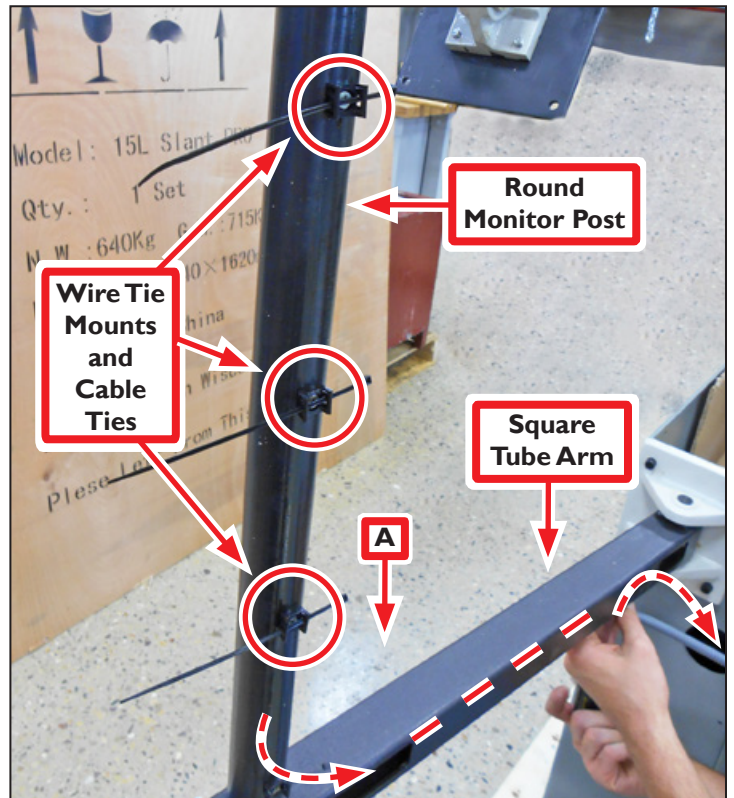

Figure 3
5. Route cables to Square Tube Arm (see **Figure 3**). Attach cables to Wire Tie Mounts with Cable Ties (see **Figure 3**).
7. Mount Power Transformer on clean machine arm surface in location A as shown in **Figure 3** using two Cable Tie Holders and two Cable Ties.
8. Route USB, SVGA, and power cables through cable slots in Square Tube Arm (see **Figure 3**).